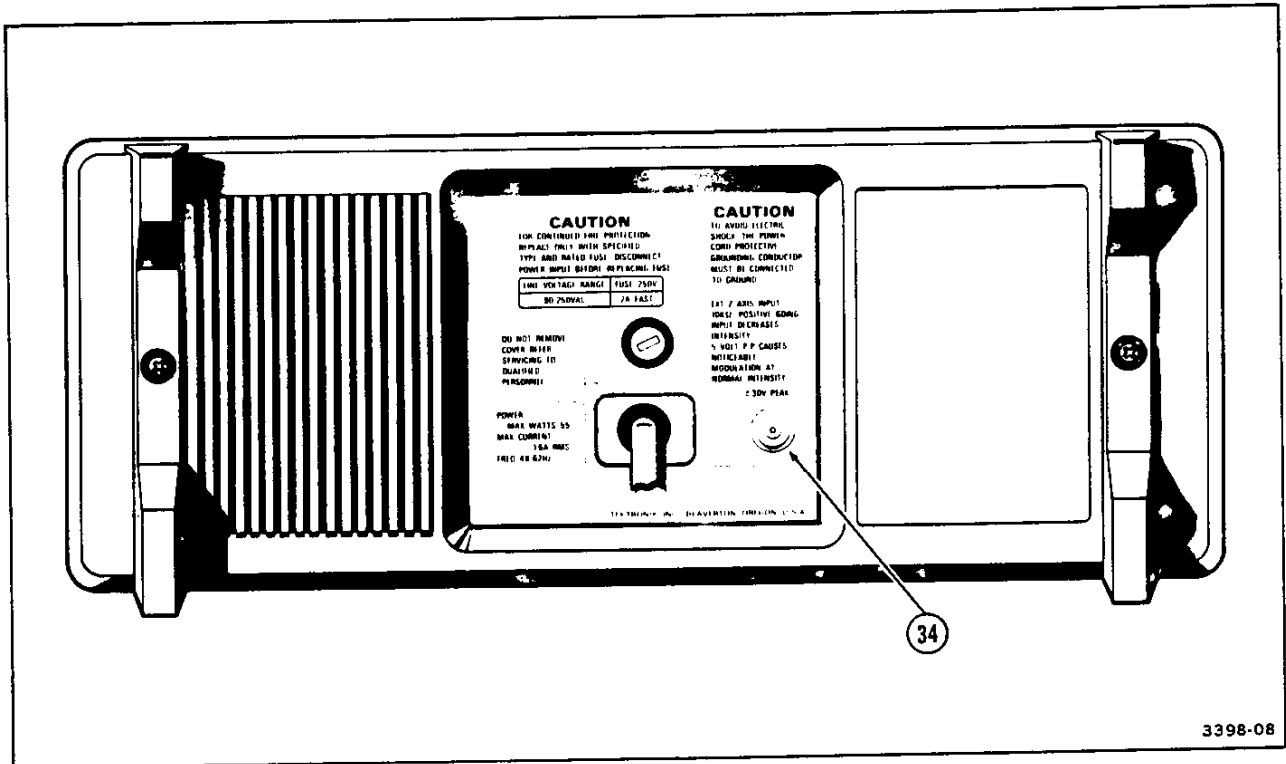

Figure 7. Rear-panel connector.
Refer to Figure 7 for location of item 34.